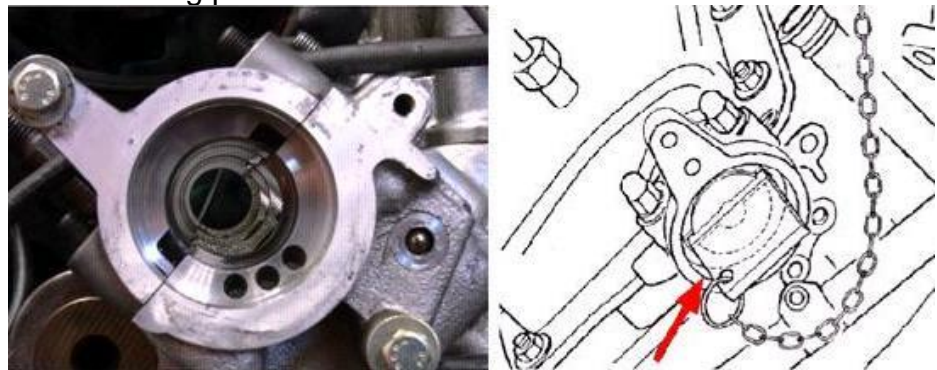

Fig. 5
- 3) By removing both; the camshaft cover (cap) and the vacuum pump at the back of the cylinder heads, you will be able to put the camshaft setting plates (GAT4451) in the slots in the rear of each camshaft (Fig. 5). They are supplied with chains which are attached to a suitable engine part to prevent them from falling.